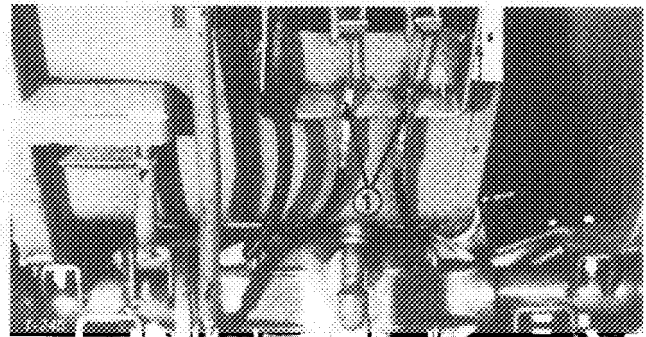

Figure 45
2. To reduce free travel of brake pedals — tighten the brakes — loosen front nut on threaded end of brake cable (Fig. 45). Then tighten rear nut to move cable backward until brake pedals have 1/2 to 1 inch (13 mm to 25 mm) of free travel. Tighten front nut after brakes are adjusted correctly.